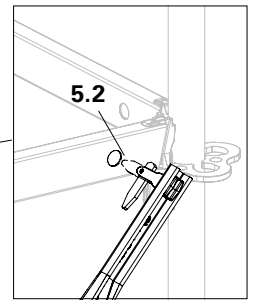

Fig. A1.03a
4. Insert the gravity pin (5.2) into the holes of the top ledger, turn pin to secure. (Fig. A1.03a)
7. If necessary, the H-Brace (10) can be removed.